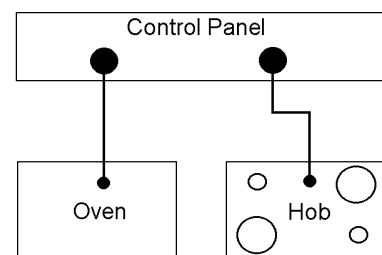

Fig. 2
- c) If you wish to connect an oven and a hob to a appliance point you can by connecting the oven and hob separately to the appliance point. Oven and hob units should be separately connected to a control panel. See Fig. 2.